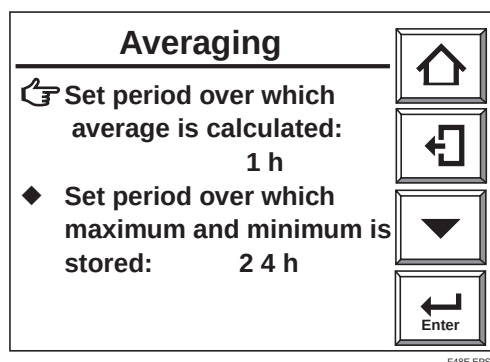

Fig. 8.19 Average / Max. / Min. Setup
- 3) Select [Others] then [Averaging]. The display of Fig. 8.19 appears.